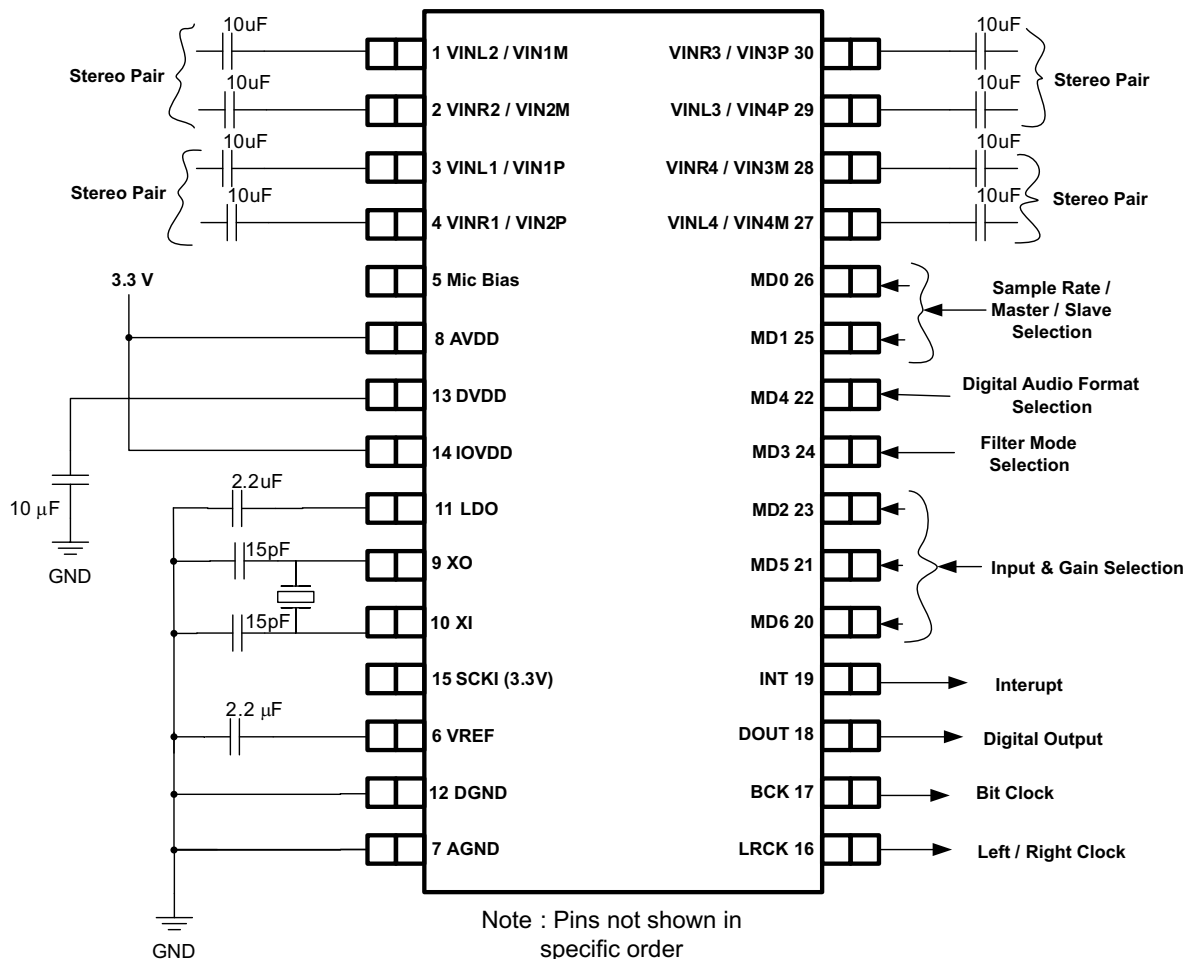

Figure 55. Simplified Schematic, PCM1861 Hardware-Controlled Subsystem
- MD0, MD1 grounded (See Figure 55, Terminal Assignments, PCM1861)